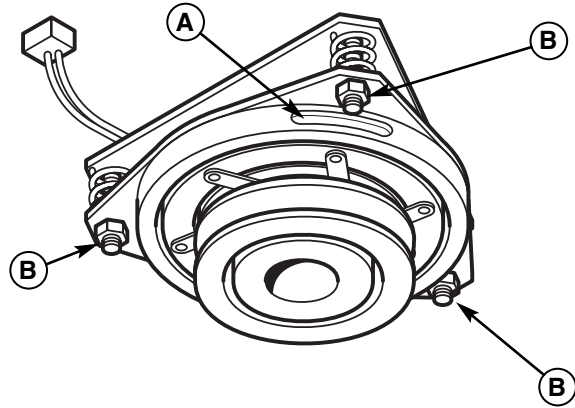

Figure 26. PTO Clutch Adjustment
2. Note the position of the 3 adjustment windows (A, Figure 26) in the side of the brake plate and the nylock adjustment nuts (B).